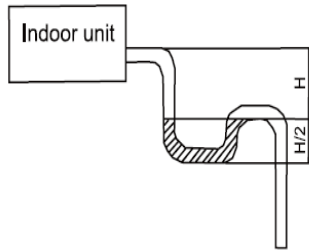

Figure 3-1-39
- (4) When the drain hose cannot keep a sufficient gradient, it is necessary to fit a riser pipe (field supplied) to it.
(5) If the air flow of indoor unit is high, this might cause negative pressure and result in return suction of outdoor air. Therefore, U-type water trap shall be designed on the drainage side of each indoor unit. (Figure 3-1-39)
(6) Install one water trap for each unit.
(7) Installation of water trap shall consider easy cleaning in the future.